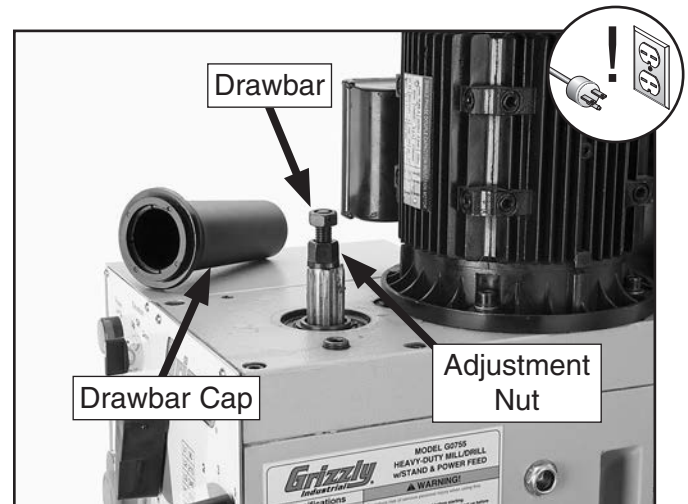

Figure 25. Drawbar components.
2. Remove drawbar cap as shown in **Figure 25**.
Note: Drawbar height inside spindle can be changed by rotating the adjustment nut (see **Figure 25**).